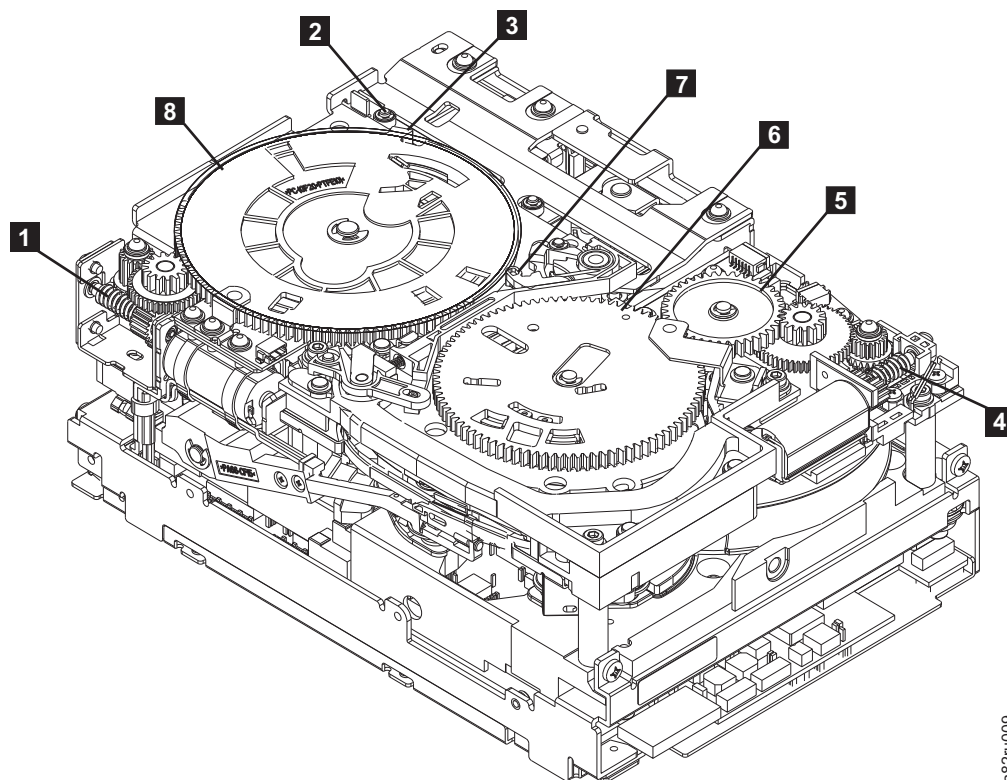
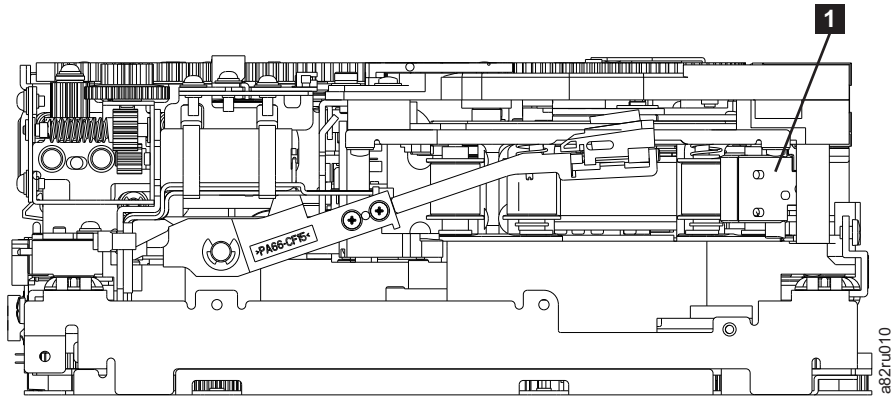

Figure E-14. Drive with cover removed to reveal gear train.
Figure E-15. Leader Block Assembly (LBA)
5. Locate the threader motor worm gear (**4** in Figure E-14 on page E-15) on the rear of the drive. Use your finger to rotate the threader motor worm gear and slowly rotate the threader mechanism gear (**6** in Figure E-14 on page E-15) clockwise. This rotates the threader motor worm gear (**4** in Figure E-14 on page E-15) clockwise, drawing the LBA into the cartridge.
6. As the tape leader block assembly (LBA) is secured in the cartridge, you should hear the LBA retention spring clips click into place. If you do not hear the click, continue rolling until the threader motor worm gear (**4** in Figure E-14) stops. The LBA is in the correct position.
- a. Loader mechanism gear (**6** in Figure E-14) nearest the front of the drive that actuates the cartridge loader mechanism.
- b. Position of the rotate stub (**3** in Figure E-14).
- c. Front loader motor worm gear (**1** in Figure E-14). Rotating this gear allows the loader mechanism gear (**8** in Figure E-14) to turn.
8. Rotate the loader motor worm gear (**1** in Figure E-14) to turn the loader mechanism gear (**6** in Figure E-14) counterclockwise. Continue turning until the rotator stub (**3** in Figure E-14) loses contact with the lever (**7** in Figure E-14). This releases the LBA leader pin.
9. Rotate the threader motor worm gear (**4** in Figure E-14 on page E-15) to turn the threader mechanism gear (**6** in Figure E-14 on page E-15) counterclockwise. This moves the LBA out of the cartridge and past the read/write head. Stop this rotation when the LBA is near the tape guide roller nearest the rear of the drive shown as **1** Figure E-15.
10. Continue rotating the loader motor worm gear (**1** in Figure E-14 on page E-15) until the rotator stub (**3** in Figure E-14 on page E-15) is positioned as shown. Notice that the rotator stub (**3** in Figure E-14 on page E-15) is nearly aligned with the cartridge loader tray guide bearing (**2** in Figure E-14 on page E-15).